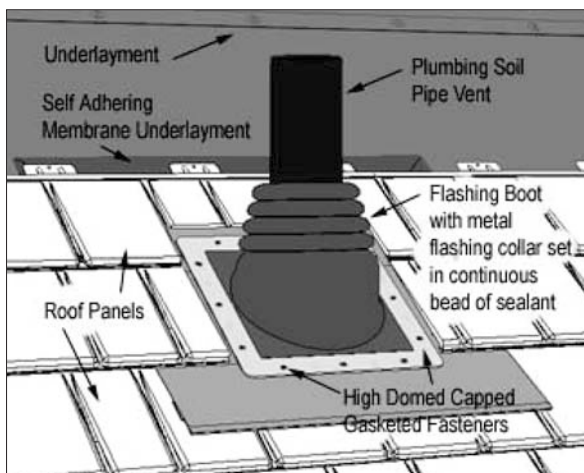

FIGURE 1-42 Completed Pipe Penetration Construction
7. Apply the panels up to and around the pipe penetration. Ensure all cut panels are hemmed under and securely locked into the Anchor Strip. *See Figure 1-42.*